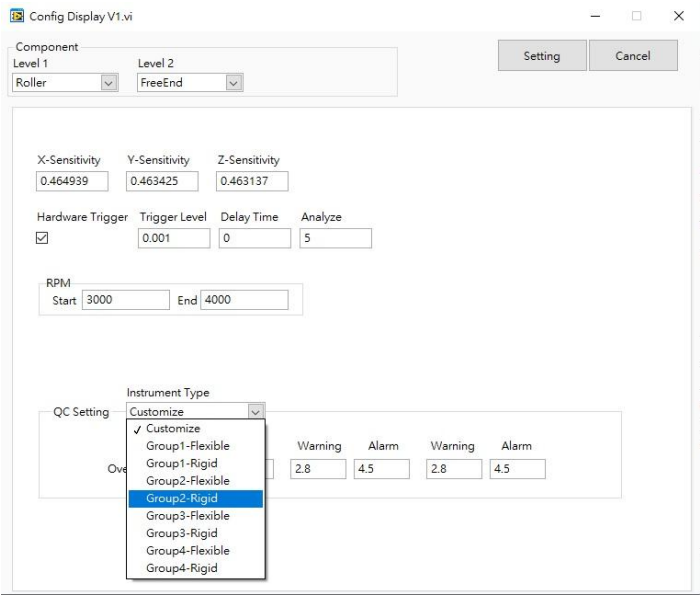

Figure2-36 Aurora Modbus Utility ISO-20816 Defined Equipment Category under Roller.FreeEnd Mode
- Instrument Type: Which equipment category defined in ISO-20816 the monitored equipment belongs to, as shown in Figure2-36; reading displays Customize.